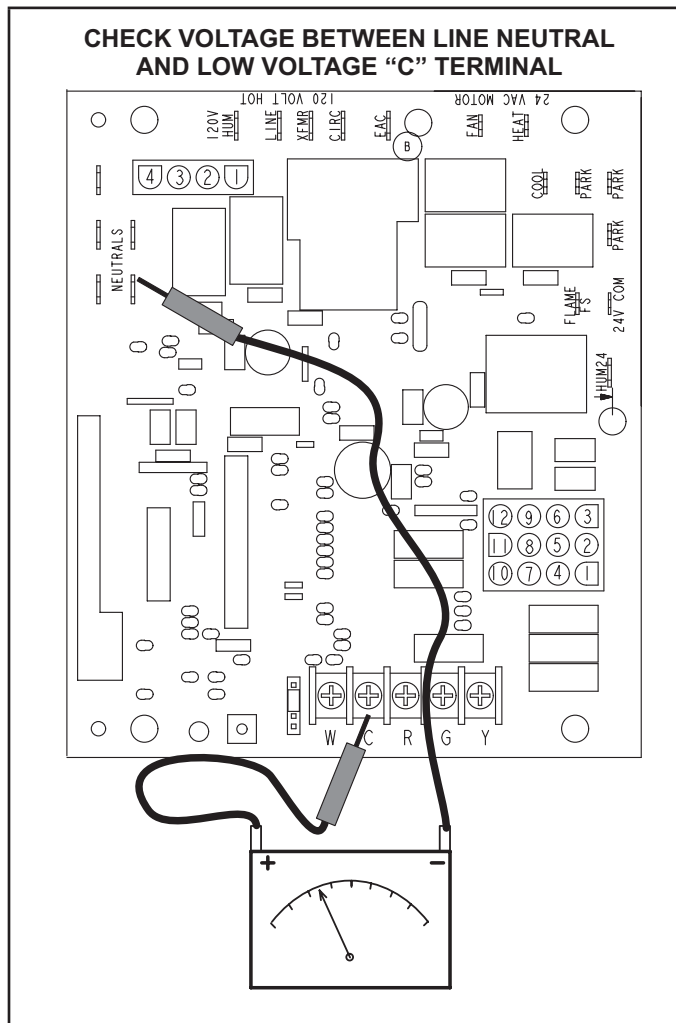

FIGURE 21
- 1 - Measure the AC voltage between Line Neutral (spade terminals) and "C" terminal (low voltage terminal block) on the integrated control. See figure 21. A wide variation in the voltage between Line Neutral and "C" as a function of load indicates a poor or partial ground. Compare the readings to the table below. If the readings exceed the maximum shown in table 14, make repairs before operating the furnace.